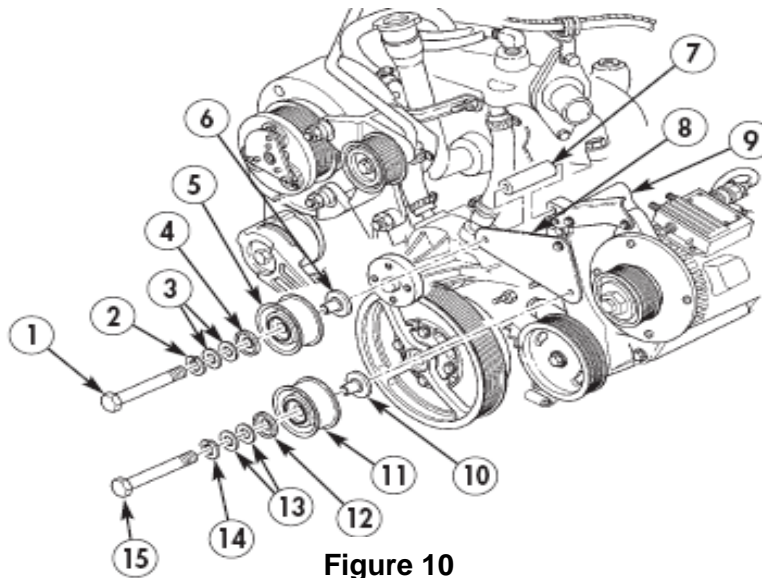

Figure 10
j. Removal of Idler Pulley. TM 9-2320-387-24-1, Chapter 3, Task Para 3-82.6, Page 3-145 and **Figure 10** contained in these instructions.
(1) Remove screw (15), pulley support (10), idler pulley (11), cover (12), two washers (13), and lock washer (14) from idler pulley bracket (8) and alternator/pump support (9). Discard lock washer (14).
(2) Remove screw (1), spacer (7), pulley support (6), idler pulley (5), cover (4), two washers (3), and lock washer (2) from idler pulley bracket (8) and alternator/pump support (9). Discard lock washer (2).